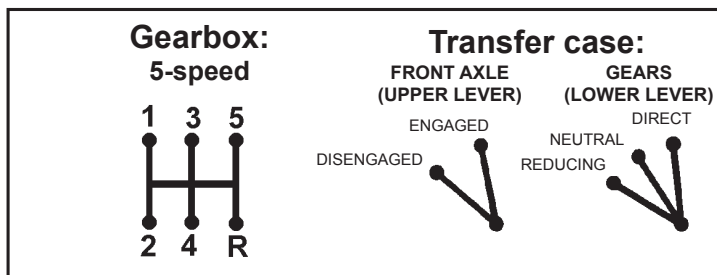

Fig. 3.2. Diagram of gearbox and transfer case lever positions
- 13 — front axle engagement lever** (Fig. 3.2). It has two positions: front — axle engaged; rear — axle disengaged;
- 14 — transfer case gear change lever** (Fig. 3.2). It has three positions: front — direct drive engaged, middle — neutral, rear — lower gear engaged;
- 15 — gearshift lever** (Fig. 3.2);